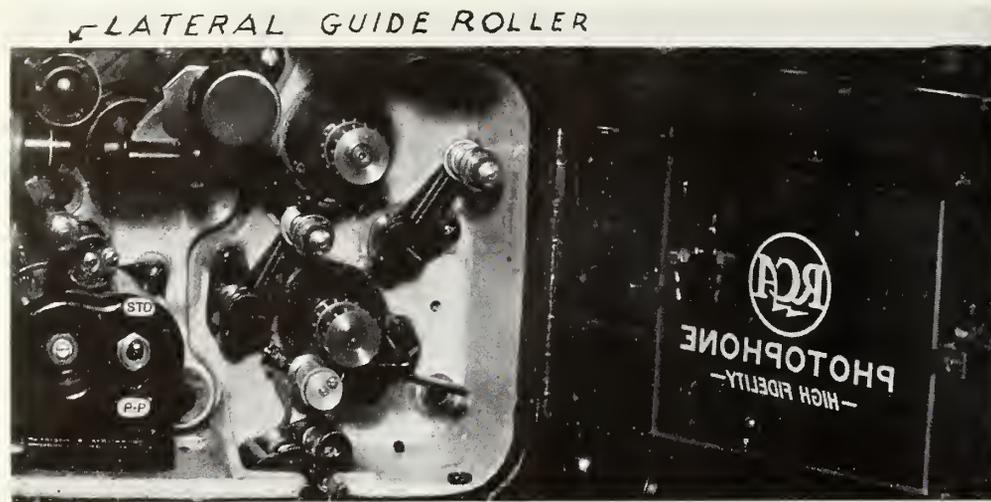
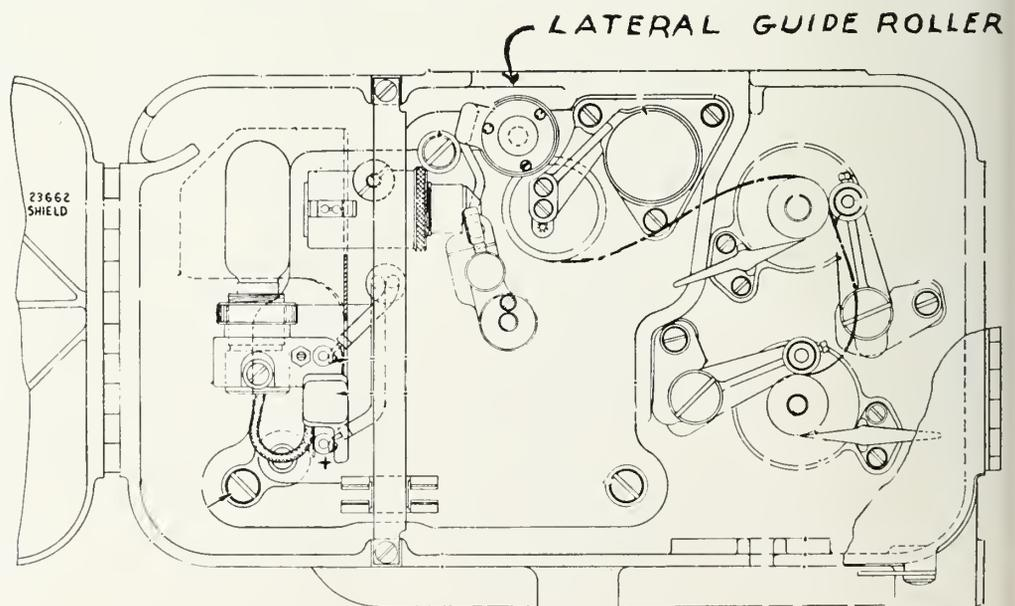

FIGURE 4
FIGURE 5
*Figure 4* shows a modern projection room installation in Grauman's Chinese Theatre in Hollywood, California. This projection room is equipped, as are thousands more, with RCA rotary stabilizer soundheads which insure uniform speed and proper scanning of the sound tracks, which in turn insure undistorted sound reproduction. *Figure 5* is a self-explanatory drawing showing
In reproducing a sound track (as we all know) the slit should be evenly illuminated and, as before stated, it should cover the entire width of the sound track. With an optical system of this type even illumination of the reproducing slit is assured when the evenly illuminated spot of light appears to be centered in the objective lens as seen on the paper as described in the previous paragraph. External adjustment of the slit is in reality not a slit adjustment but is accomplished by an adjustment of the combination pressure and guide roller ("shown in *Figure 5* as "Lateral Guide Roller,") which holds the film in contact with the rotating gate. This roller can be moved in and out the proper amount to place the slit image in the exact position as prescribed by the Standardizations Committee of the SMPE.